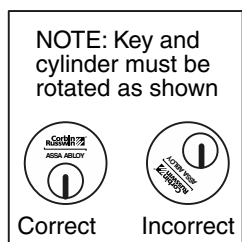

Figure 16
**CYLINDER MUST BE ORIENTED CORRECTLY. (FIGURE 16)**